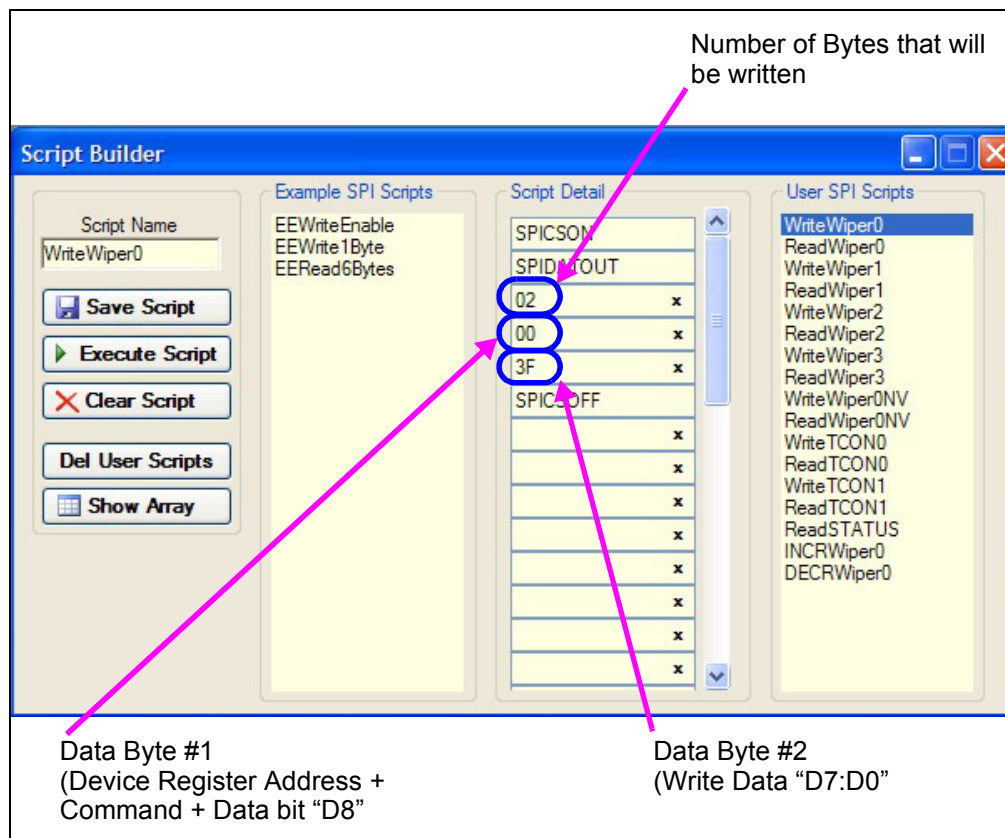

FIGURE 2-10: Example Write Script.
Double clicking on the WriteWiper0 User SPI Script will load the script details. Figure 2-10 shows what the values mean in the Script Details. These values are hex numbers.
9. Double click on the “WriteWiper0” script in the Example SPI Scripts column. This loads the Script Detail column (see Figure 2-10).